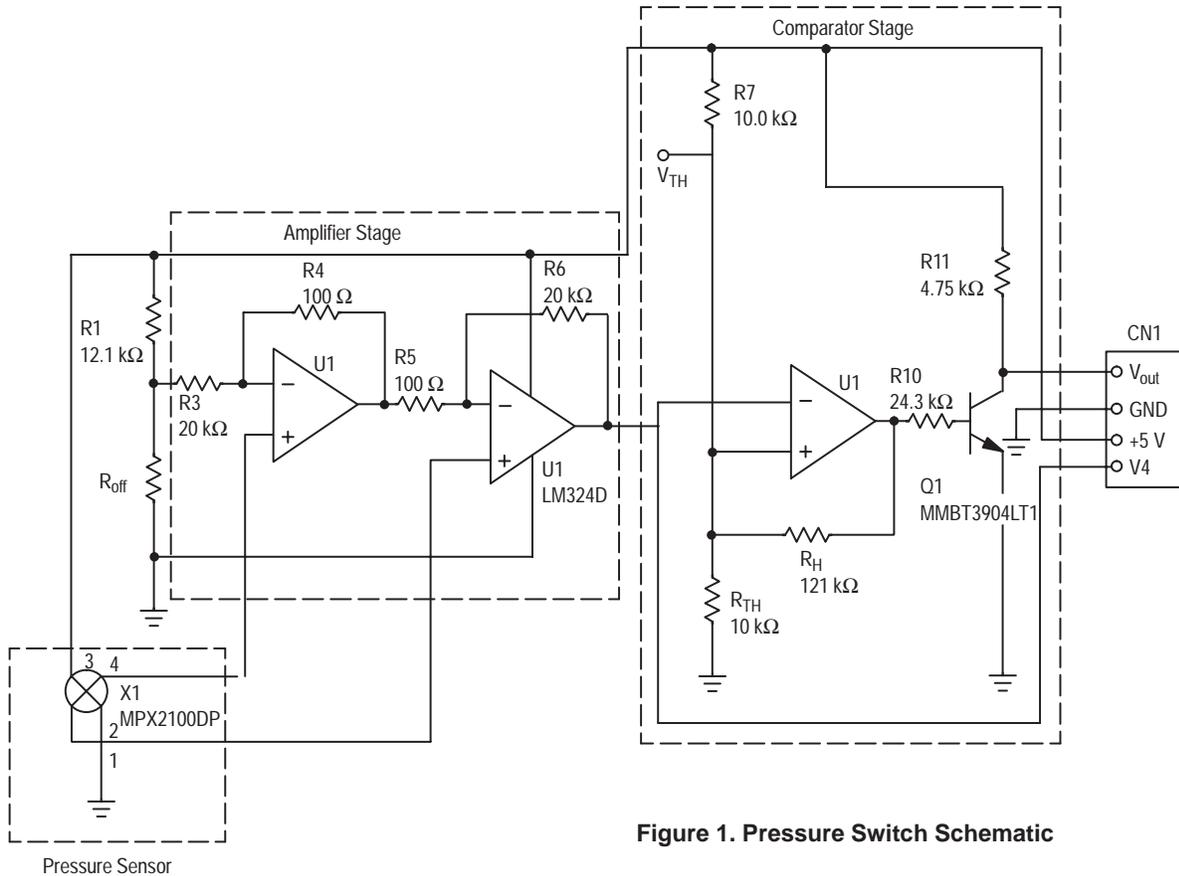

Figure 1. Pressure Switch Schematic
The amplifier circuitry, shown in Figure 1, is composed of two op-amps. This interface circuit has a much lower component count than conventional quad op amp instrumentation amplifiers. The two op amp design offers the high input impedance, low output impedance, and high gain desired for a transducer interface, while performing a differential to single-ended conversion. The gain is set by the following equation:
- The threshold for which the output switches must be programmable. The threshold is easily set by dividing the supply voltage with resistors R7 and R_{TH}. In Figure 1, the threshold is set at 2.5 V for R7 = R_{TH} = 10 kΩ.
speed is comparable to the LM311's. This enhanced performance does, however, require an additional transistor and base resistor. Referring to Figure 1, note that this comparator topology was chosen for the pressure switch design. The LM324 is a quad op amp that has equivalent amplifier characteristics to the LM358.
Like the other two circuits, this comparator circuit can be designed with the same equations and procedure. The values for R_B and R_{PU} are chosen to give a 5:1 ratio in Q1's collector current to its base current, in order to insure that Q1 is well-saturated (V_{out} can pull down very close to ground when Q1 is on). Once the 5:1 ratio is chosen, the actual resistance values determine the desired switching speed for turning Q1 on and off. Also, R_{PU} limits the collector current to be within the maximum specification for the given transistor (see example values in Figure 1). Unlike the other two circuits, this circuit is positive logic due to the additional inversion created at the output transistor stage.